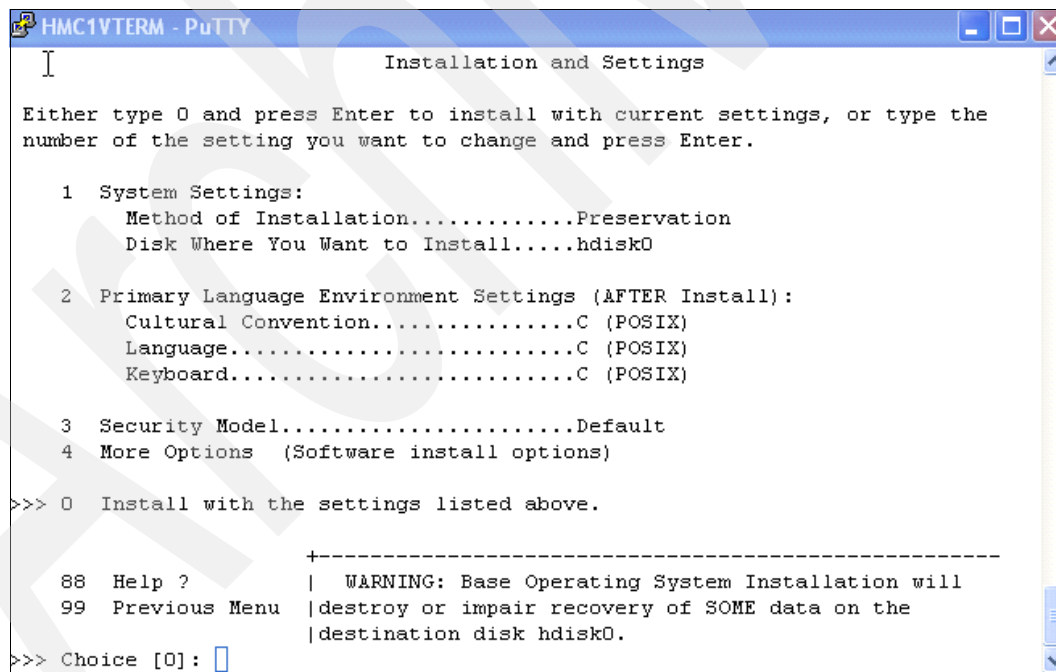

Figure 4-18 BOS Installation and Settings window
- l. You are prompted either install with the current installation settings or make changes, as shown in Figure 4-18.